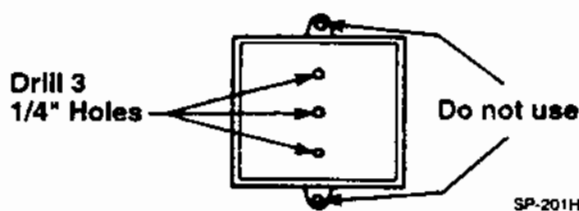

Figure 1.
2. Drill three 1/4-inch holes through the housing as shown in Figure 1.
To prevent theft, do not use the external mounting tabs to mount the housing. Refer to Figure 1.